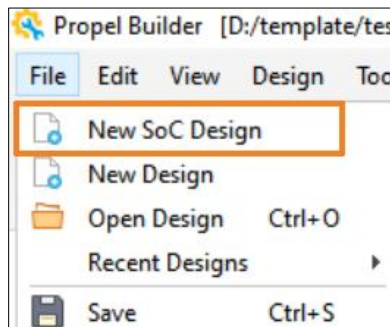

Figure 4.1. Create a New SoC Design
1. Click **File > New SoC Design** to create a new design from a template (Figure 4.1).